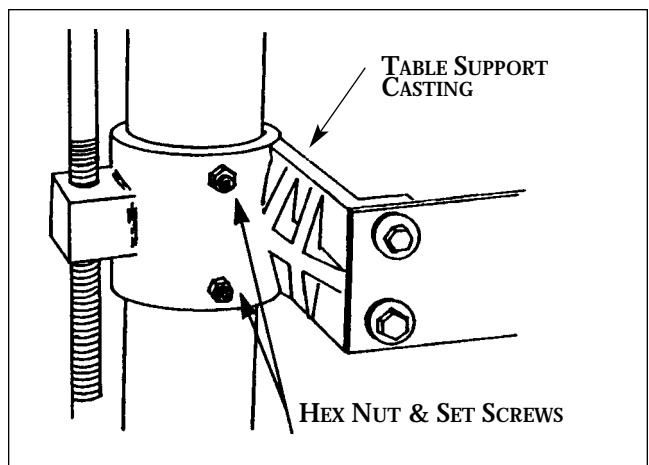
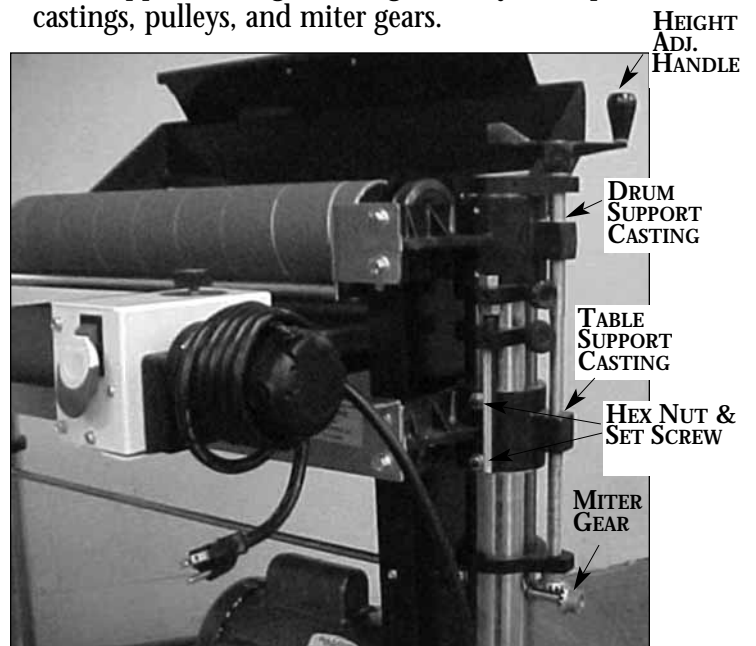

Fig. 3. Table support casting and set screws.
Fig. 11. Table height adjustment mechanism.
2. Loosen the hex nut and set screws on the table support castings (Fig. 3). The set screws on the table support castings have been tightened at the factory to eliminate free-play between the table support casting and the column tube during shipment. There are two table support castings on the SHOPPRO 25, one each for the right and left column tubes. Important: These set screws are tightened for shipping and must be loosened and readjusted before operating either the height adjustment mechanism or the conveyor drive.
The table height and depth of cut are controlled by the height adjustment handle (see Fig. 11). Turning the handle raises or lowers both sides of the table simultaneously by transferring the handle rotation through the miter gear and cross bar assembly.
Important: Before using the height adjustment, be sure to loosen both the set screws located on the front of both table support castings (see Fig. 3 and Fig. 11) to allow the table support to slide on both column tubes. These set screws are tightened for shipping and must be loosened and readjusted to allow the table support castings to move freely on the column support tubes. Readjust the set screws just so they eliminate free-play between the table support casting and the column tube. To properly adjust, tighten the set screws (see Fig. 3) only finger-tight so they lightly touch the column tubes. Then hold each set screw in position with an Allen wrench and tighten the hex nut.